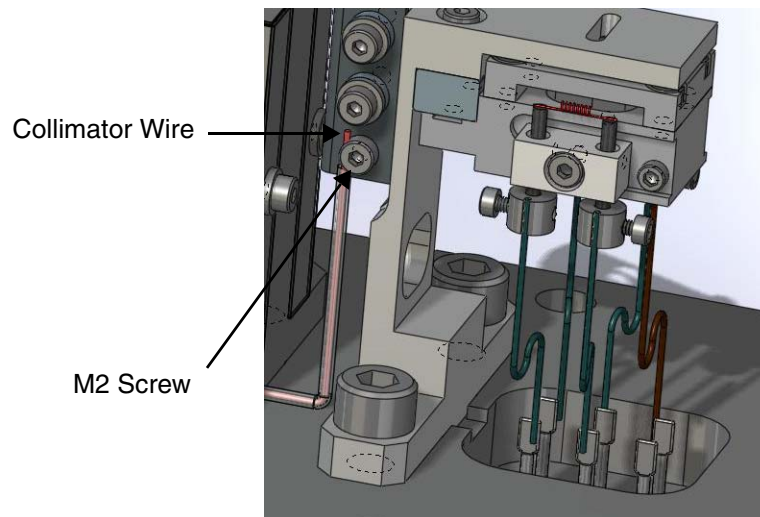

Figure B-68 Partial Pressure Plate
17. Connect the collimator wire to the collimator plate using an M2 screw (Figure B-68).